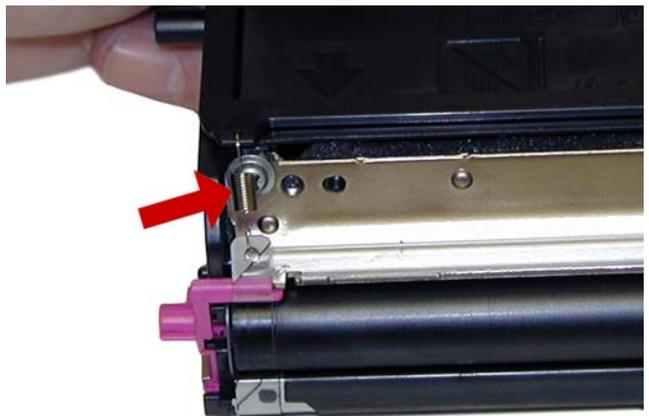

Figure 17
17) Install the small springs on both sides of the developer roller. The clear plastic band should be under the bushing. See **Figures 17 & 18**